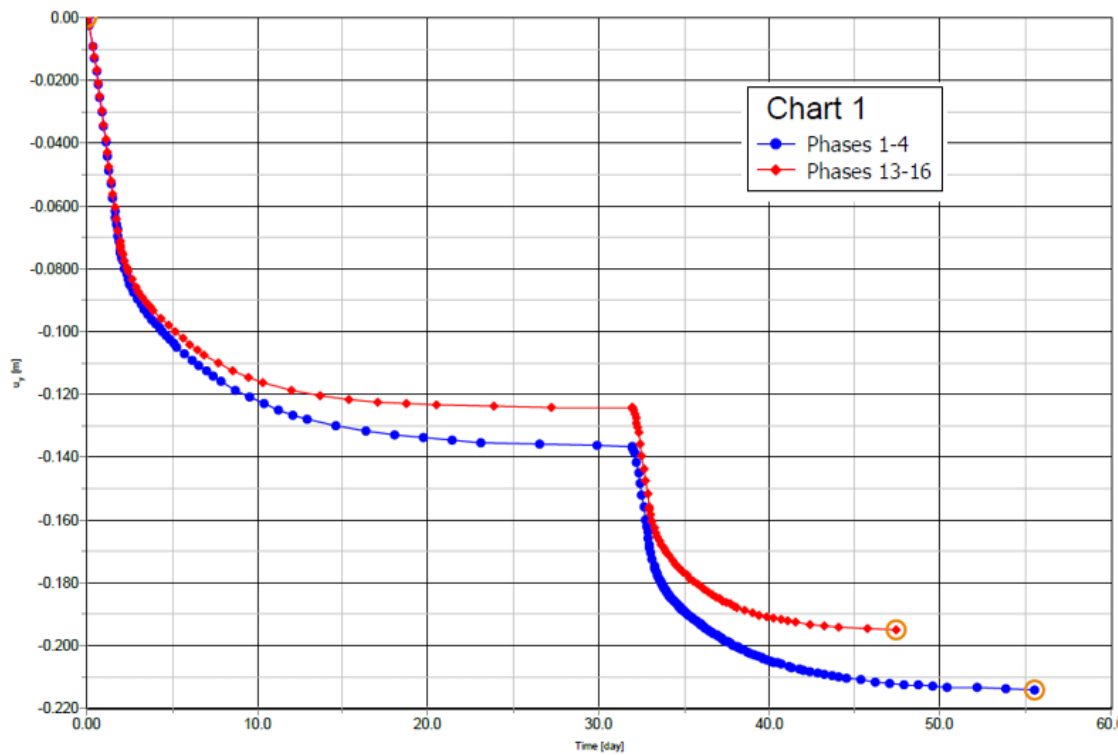

Figure 128: Effect of updated mesh and water pressures analysis on resulting settlements
4. In this curve the results for Initial phase and phases from 13 to 16 will be considered. The resulting chart is shown in Figure 128 (on page 147).